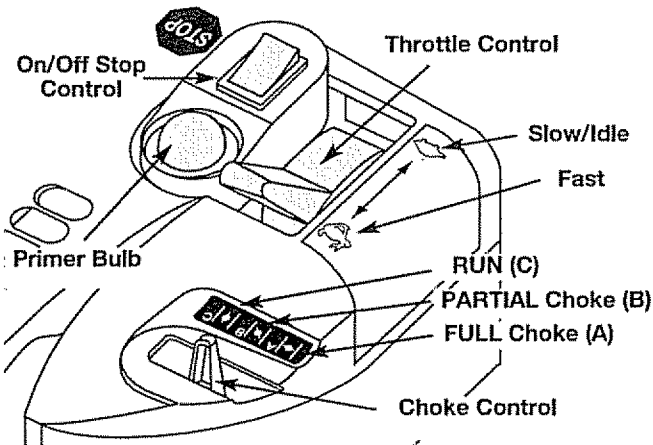

Fig. 9
NOTE: The On/Off Stop Control is a momentary switch and is always in the **ON** position (Fig. 9).
2. Fully press and release primer bulb slowly 5 to 7 times. Fuel should be visible in the bulb (Fig. 9). If fuel is not visible, press three (3) more times, or until it is.
3. Place the choke control in the **FULL** choke position (H A) (Fig. 9).
5. Place the choke control in the **PARTIAL** choke position (H B) (Fig. 9).
1. Set the throttle control to the idle position (I) (Fig. 9).
2. Press and hold the On/Off Stop Control down in the **STOP** position until the engine comes to a complete stop (Fig. 9).